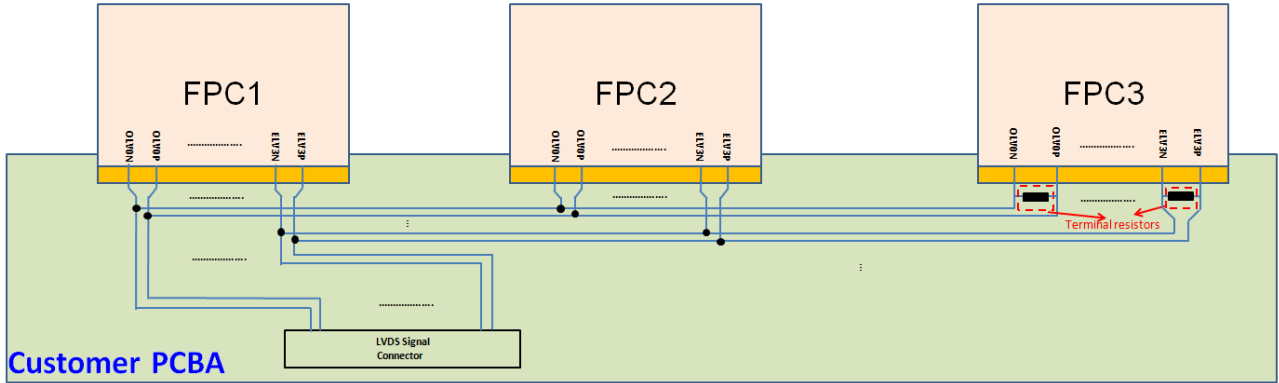

Figure 15: Cascade design with LVDS Signal
- (1) L type is recommended for LVDS trace (Figure 15) ;
- (2) The terminal resistors is placed to the LVDS trace terminal (Figure 15) ;
- (3) The resistance value of the terminal resistors is recommended as 100ohm (Figure 15) ;